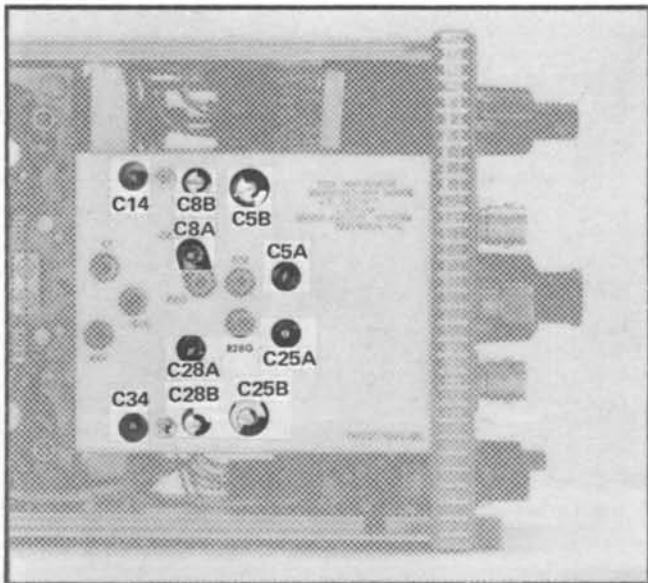
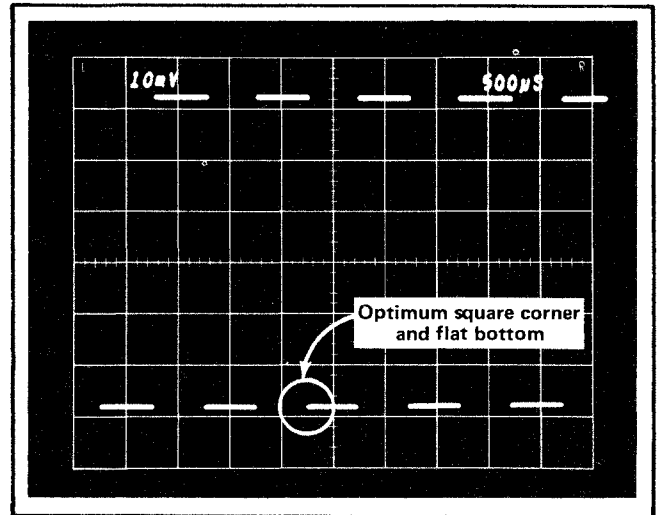

Fig. 5-13. Adjustment locations used in the Attenuator Compensation Adjustment procedure.
Fig. 5-14. Checking for optimum — INPUT waveform at sweep rate of 0.5 ms/div.
Fig. 5-12B through 5-12E are some waveform examples obtained when the adjustments were misadjusted. Fig. 5-13 shows the location of the adjustments.
h. CHECK—The waveform should have a flat bottom as illustrated in Fig. 5-14. Aberrations should not exceed ±1% or ±0.06 division for a 6 division peak-to-peak display.
i. ADJUST—The — INPUT shunt capacitance C34 and the attenuator adjustments listed in Table 5-6 for a square lower front corner and flat bottom (see Fig. 5-14). The procedure used here is similar to the procedure used in performing step 18. Fig. 5-13 shows the locations of the adjustments.